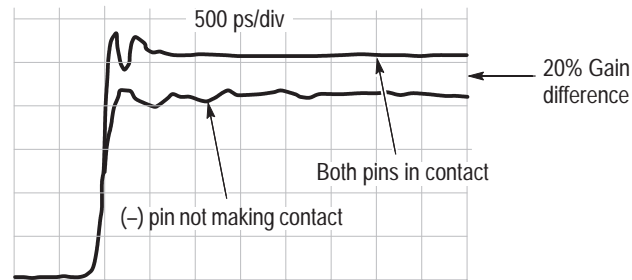

Figure 10: Verifying both probe pins are contacting the DM test points
14. Using the probe positioner, probe the DM test points on the probe calibration fixture. Compare your display to Figure 10 on page 15 to verify that you have a valid connection with both pins.